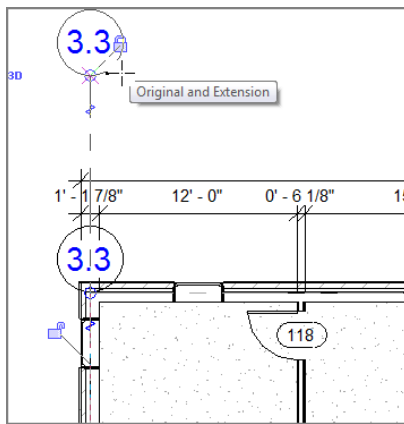

FIGURE 8.15 : Dragging the new bubble out of the wall
5. When you pick the wall, the grid is added, but it doesn't have the name or number you want. You'll change that. But first, pick the round blue grip and drag the bubble up past the dimensions, as shown in Figure 8.15.